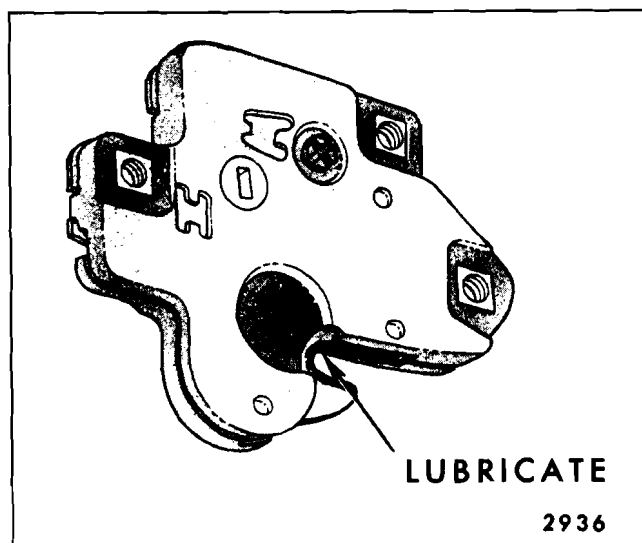

Fig. 2-20—Rear Compartment Lid Lock Lubrication
2. Apply a thin coat of white lithium soap grease (Auto-Lube "A", Part No. 1050110 or Spray-Lube "A", Part No. 1050520 or equivalent) to the contact surface of the lock bolt (Fig. 2-20).